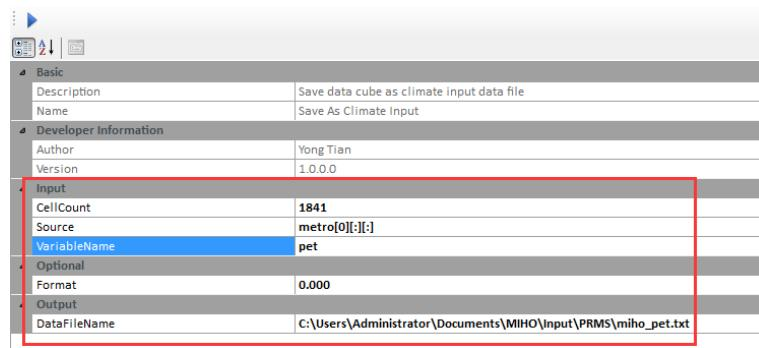

Figure 6-6. Settings used to generate PET input file.
- 8) In the Model Toolbox View, double click the tool Driving Forces -> Save As Climate Input, set the input and output as shown Figure 6-6 to save PET input file.